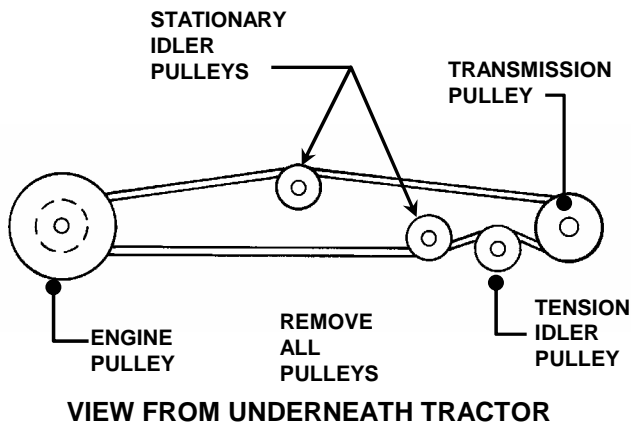

FIGURE 4.34
4. Remove mounting nuts that secure the traction drive belt idler tension pulley and stationary idler pulleys. See Figure 4.34.